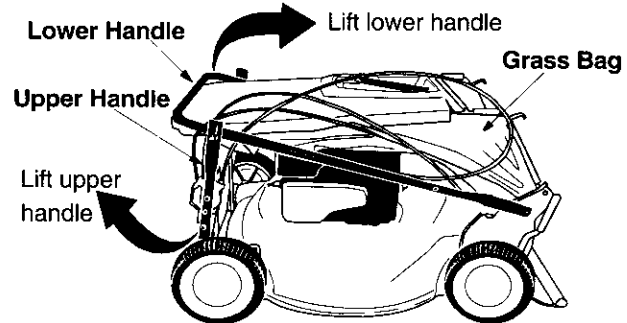

Figure 2
- For shipping purposes, the grass bag was placed on top of the unit. Remove it from the unit and set it out of the way. See Figure 2.
- Raise the lower handle, as shown in Figure 2, until it snaps into place.
- Raise the upper handle as shown in Figure 2.